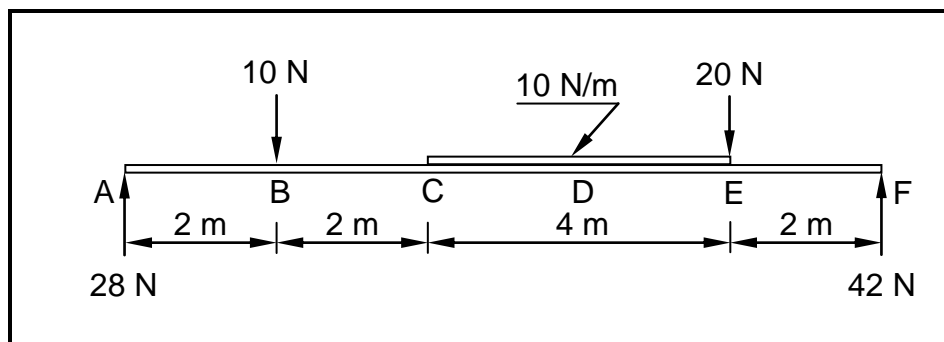

FIGURE 5.3
5.3 FIGURE 5.3 below shows the space diagram of a beam with a span of 10 metres with two point loads and a uniformly distributed load. Study the diagram and answer the questions that follow.
5.3.1 Deduce from FIGURE 5.3 the value of the shear forces at **A**, **B**, **C**, **E** and **F** and draw the shear force diagram on ANSWER SHEET 5.3. Indicate the value of the shear forces on the diagram. Use scale 1 mm = 1 N. (7)